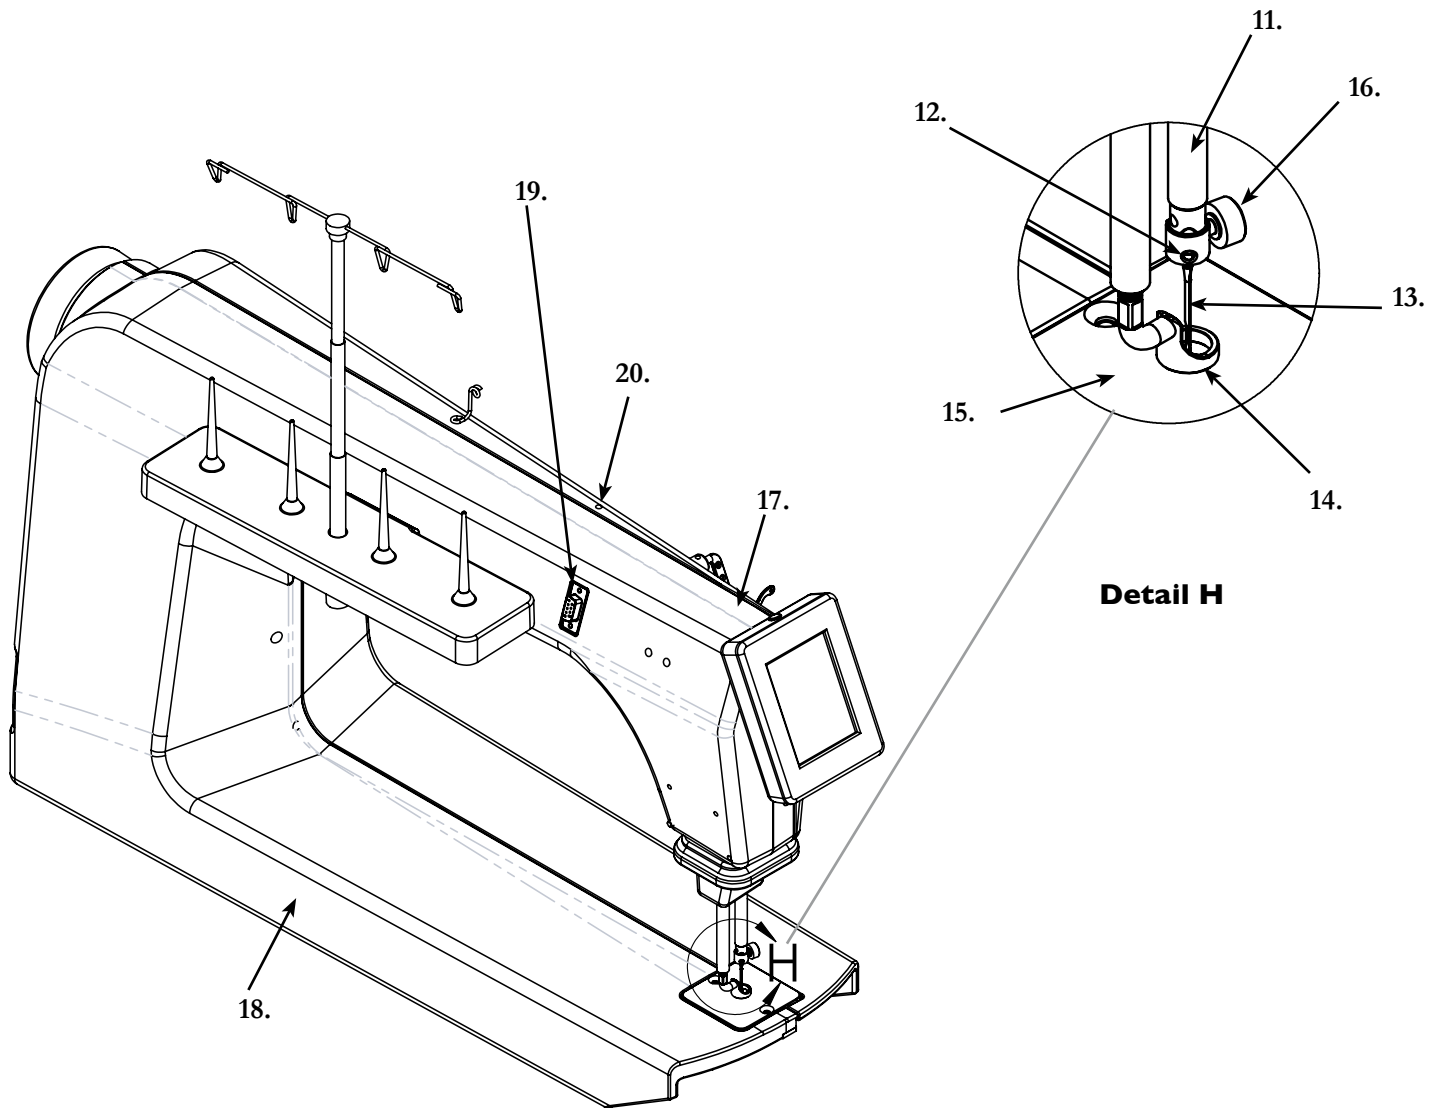

Figure 2
3. Plug the remaining cable end into the display connector located on the side of the machine (page 11, Figure 2, #19).